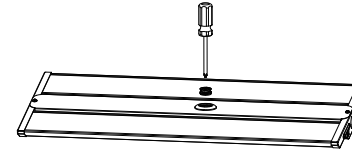

Figure 5
- Step1. Remove the sensor cover of the fixture with screwdriver (Figure 5).